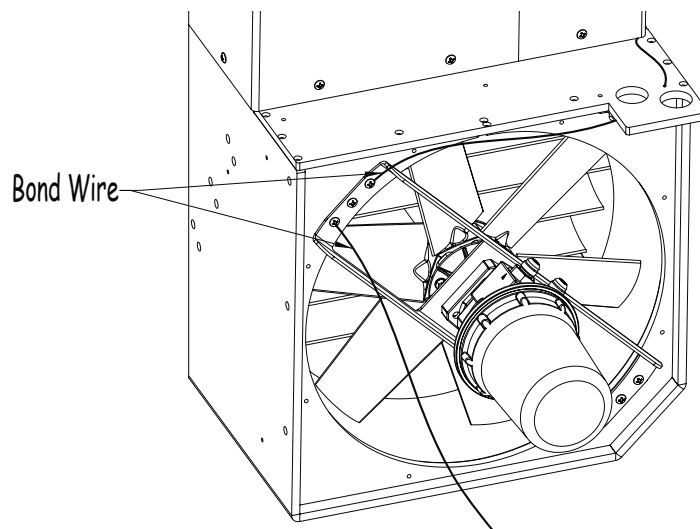

Fig 15
15. Disconnect the two bond wires from the bonding screws on the motor bracket (Fig 15).